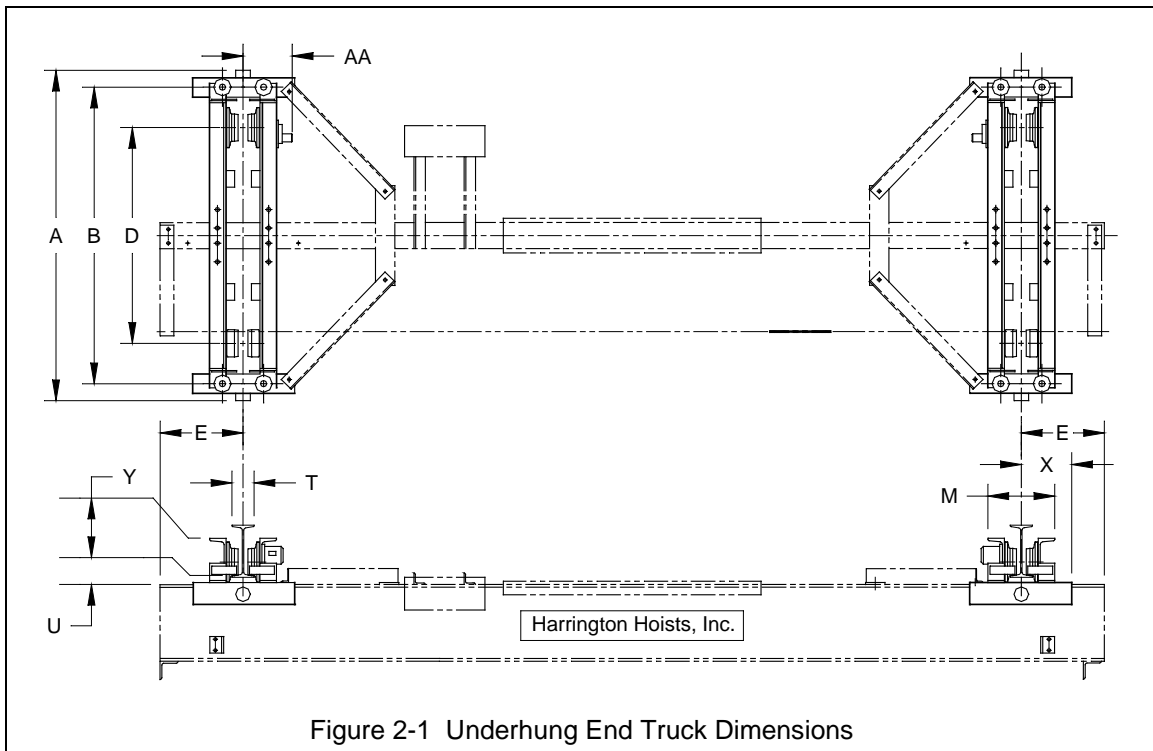

Figure 2-1 Underhung End Truck Dimensions
**Underhung Push (Manual) End Trucks (Refer to Fig. 2-1)**
**Underhung Geared End Trucks (Refer to Fig. 2-1)**
Underhung Motorized End Trucks (Refer to Fig. 2-1)
**Max-E-Lift Underhung Geared End Trucks (Refer to Fig. 2-1)**
**Max-E-Lift Underhung Motorized End Trucks (Refer to Fig. 2-1)**